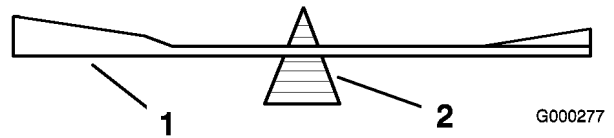
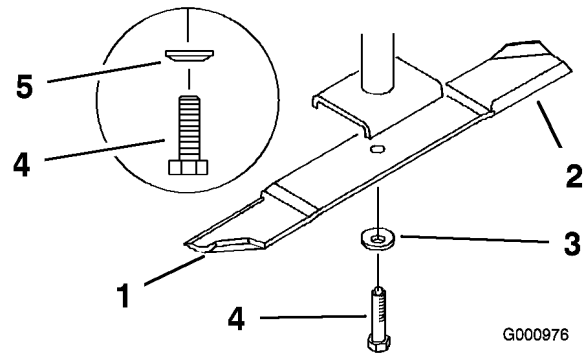

Figure 67
Figure 68
2. Remove the blade bolt, spring disk and blade from the spindle shaft (Figure 68).
1. Install the blade onto the spindle shaft (Figure 68).
2. Install the spring disk and blade bolt. The spring disk cone must be installed toward the bolt head (Figure 68). Torque the blade bolt to 85-110 ft-lb (115-150 N•m).
2. Check the balance of the blade by putting it on a blade balancer (Figure 67). If the blade stays in a horizontal position, the blade is balanced and can be used. If the blade is not balanced, file some metal off the end of the sail area only (Figure 68). Repeat this procedure until the blade is balanced.